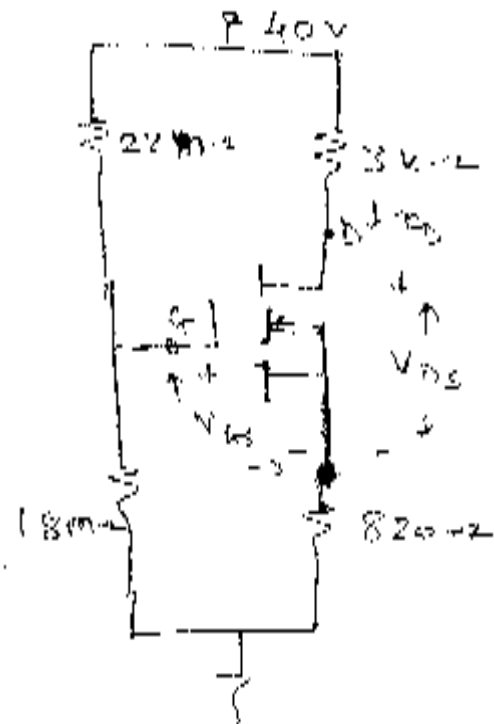

Figure 4
- b) For the circuit shown in Figure 4, calculate V_{GS} , I_D , V_{DS} . 8